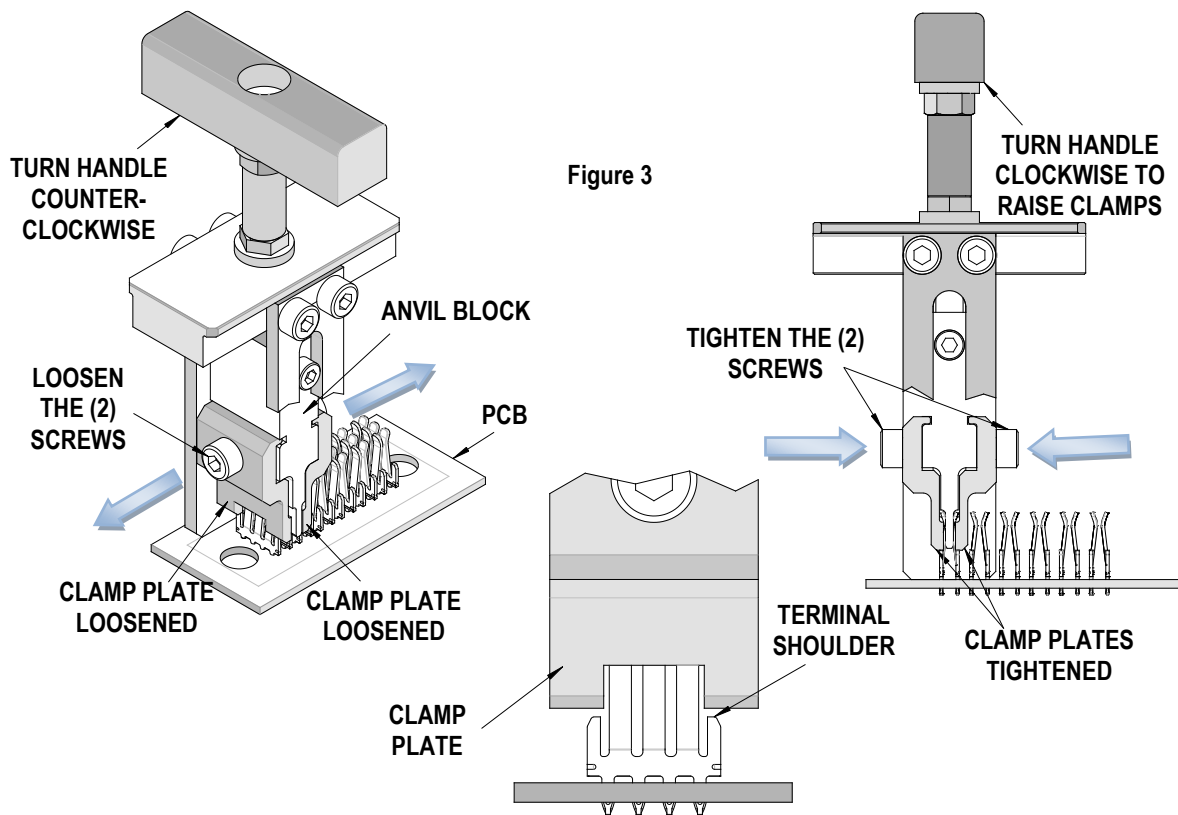

Figure 3
6. Working from the top, move the anvil block and clamp plates down over the power terminals until the clamp plates rest on the shoulder of the terminal. See Figure 3.